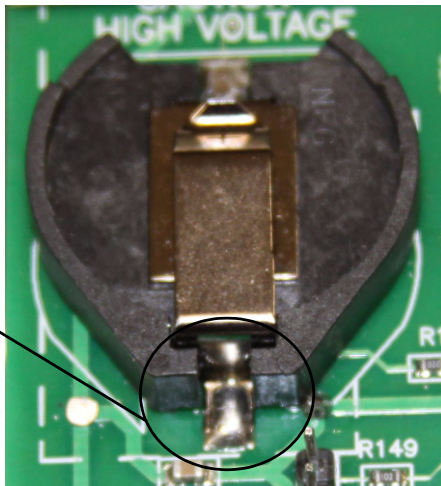
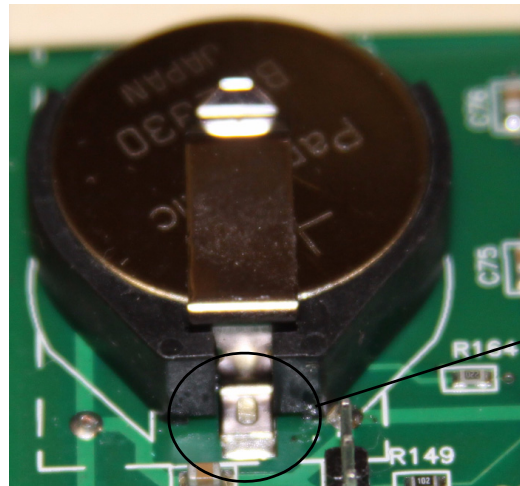

Figure 2. Desired solder applied to lower battery pin
Figure 3. Inadequate solder covering on lower battery pin
3. Inspect the battery pins. The pins should be evenly covered with solder with no pin exposed. Refer to Figure 2 and Figure 3 for examples.